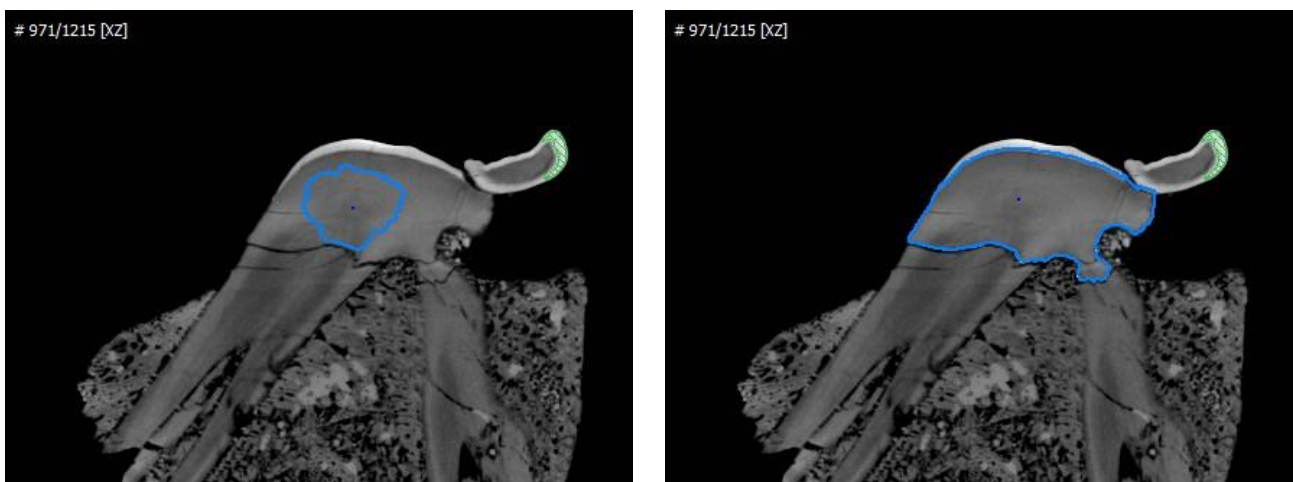

Figure 52 – Intermediary (left) and final (right) propagation steps with the Blow tool.
- The **Blow Tool** extends the selection area from a point by mouse control (Figure 52). The tolerance parameters influence the contrast needed for the image contours by forcing the contours to stay within their limits. Before the calculation, filtering is performed and the Gauss width parameter controls filter smoothing.